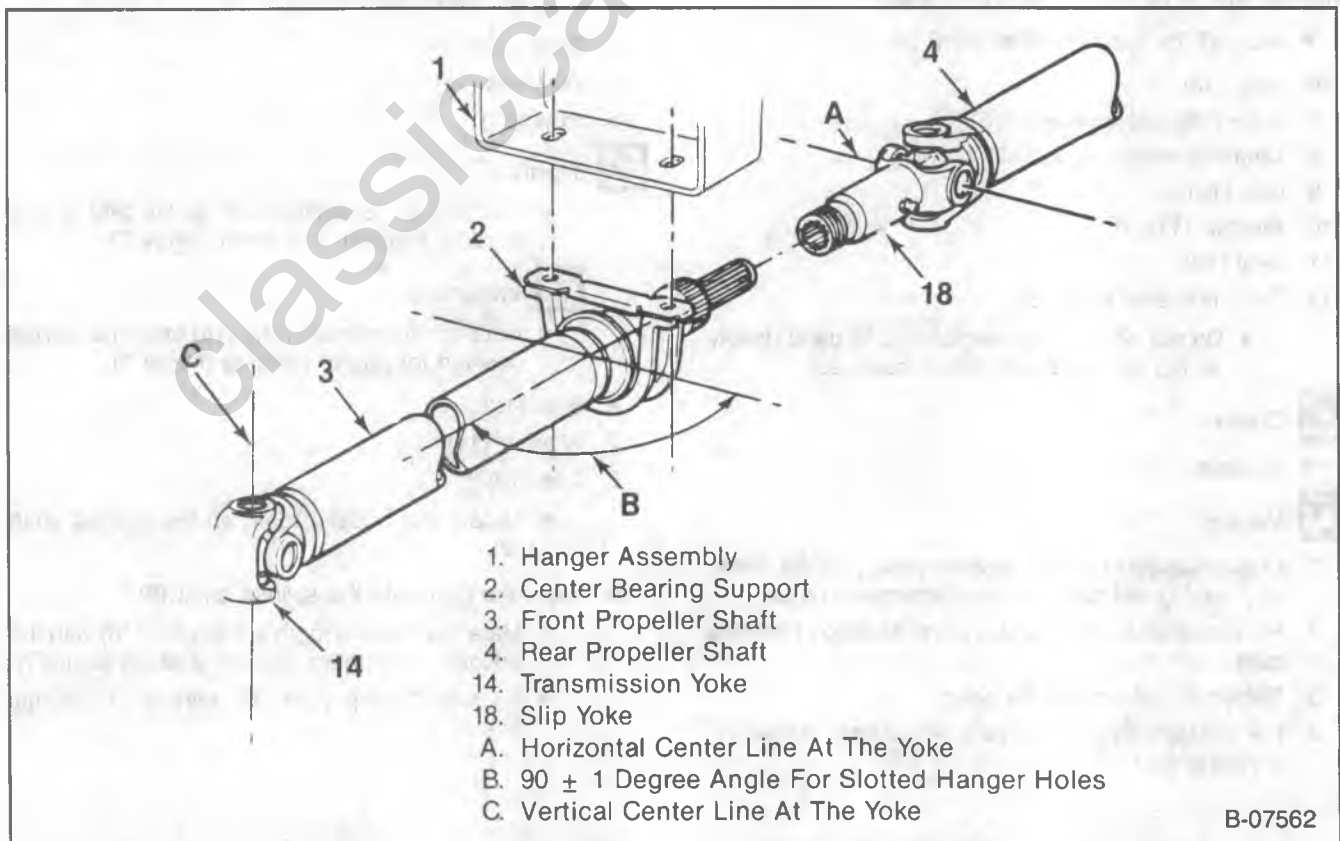

Figure 7 — Multiple Propeller Shaft Alignment; In Phase
1. Propeller shaft (3) into the transmission.
- Bottom the propeller shaft (3) yoke in the transmission.
2. Center bearing support (2) onto hanger (1).
- Align the center bearing support 90 degrees to the front and rear propeller shaft (3 and 4) center lines. Refer to figure 7.
3. Bolts (16).
4. Washers (15).
5. Nuts (13).
- Nut (13) to "Specifications" at the end of this section. Maintain alignment (figure 7).
- Set the transmission yoke (14) ears in a vertical position for proper phasing (figure 7).
- 6. Seal (12).
- 7. Washer (11).
- 8. Cap (10).
- Locate the bridged tooth on the splined shaft (9).
- 9. Slip yoke (18) onto the splined shaft (9).
- Mate the missing tooth in the yoke (18) with the bridged tooth on the splined shaft (9) (figure 7).
- Be sure the slip yoke (18) ears are horizontal (figure 7).
Install or Connect (Figures 7 and 8)
- Bolts (5) or nuts (40) to "Specifications" at the end of this section.
3. Front center bearing support (2) to hanger (1).
- Align the center bearing support 90 degrees to the propeller shaft center line. Refer to figure 7.
4. Bolts (16) and washers (15).
- Nuts (13) to "Specifications" at the end of this section. Maintain alignment (figure 7).
6. Intermediate propeller shaft (35) to front propeller shaft (3) yoke.
- Support intermediate propeller shaft (35).
7. Bolts (5) (using J 33051, if desired) and retainers (6).
- Bolts (5) to "Specifications" at the end of this section.
8. Rear center bearing support (36) to hanger.
- Align the center bearing support 90 degrees to both the front and intermediate propeller shaft centerlines. Refer to figure 7.
9. Bolts (42) and washers (43).
10. Nuts (44).